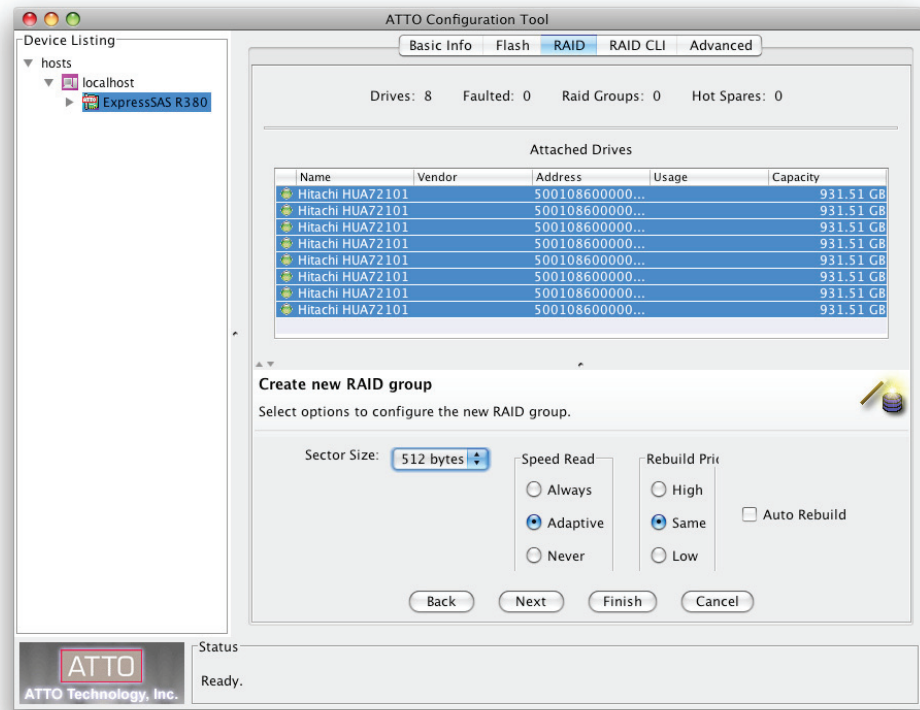

Figure 13
4. Click **Next**. Select the next set of options to configure the new RAID group. See **Figure 13** on page 13.